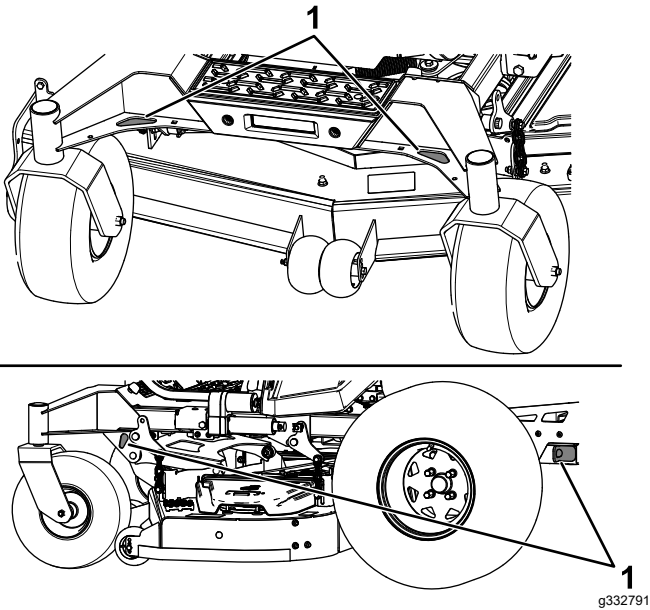

Figure 39
6. Tie down the machine near the front caster wheels and the rear frame with straps, chains, cable, or ropes (Figure 39). Refer to local regulations for tie-down requirements.